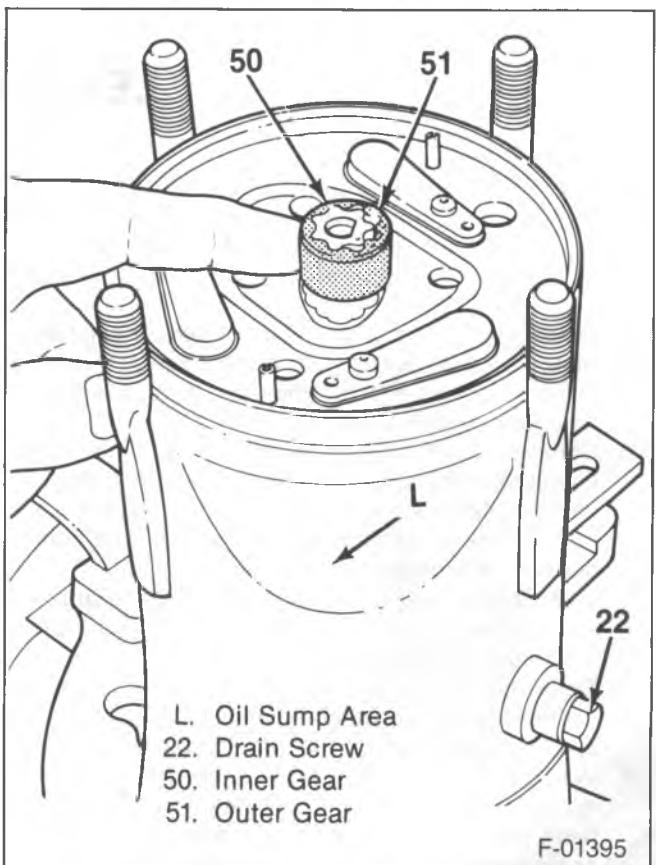

Figure 50—Positioning the Oil Pump Gears
19. Seal (31) and bushing (30) to the rear of the discharge cross-over tube (26).
20. Rear suction reed (48) over the dowel pins (45).
21. Rear discharge valve plate (49) over the dowel pins (45).
22. Inner oil pump gear (50) over the shaft (39).
23. Outer oil pump gear (51) over the inner gear (figure 50).
- Face the compressor oil sump and position the outer gear (51) so that it meshes with the inner gear (50) at the 9 o'clock position. The cavity between the gear teeth will be at the 3 o'clock position.
24. Seal (52) to the discharge valve plate (49).
- Lubricate the seal (52), shell (9), discharge plate (49) and gears (50 and 51) with 525 viscosity refrigerant oil.
25. Suction screen (58) to the rear head (54).